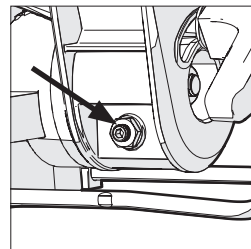

Fig. 10
- Loosen the locknut on the bevel angle adjustment screw with a 10mm spanner and 3mm Hex key (Not supplied) (Fig. 10).